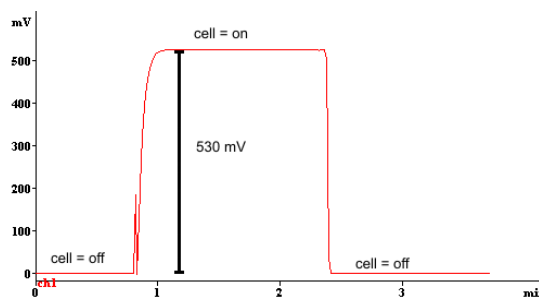

Fig. 2. Measurement of output from a dummy cell
2. Measure the analogue output with cell ON and cell OFF, and calculate the difference in output voltage (Fig. 2)